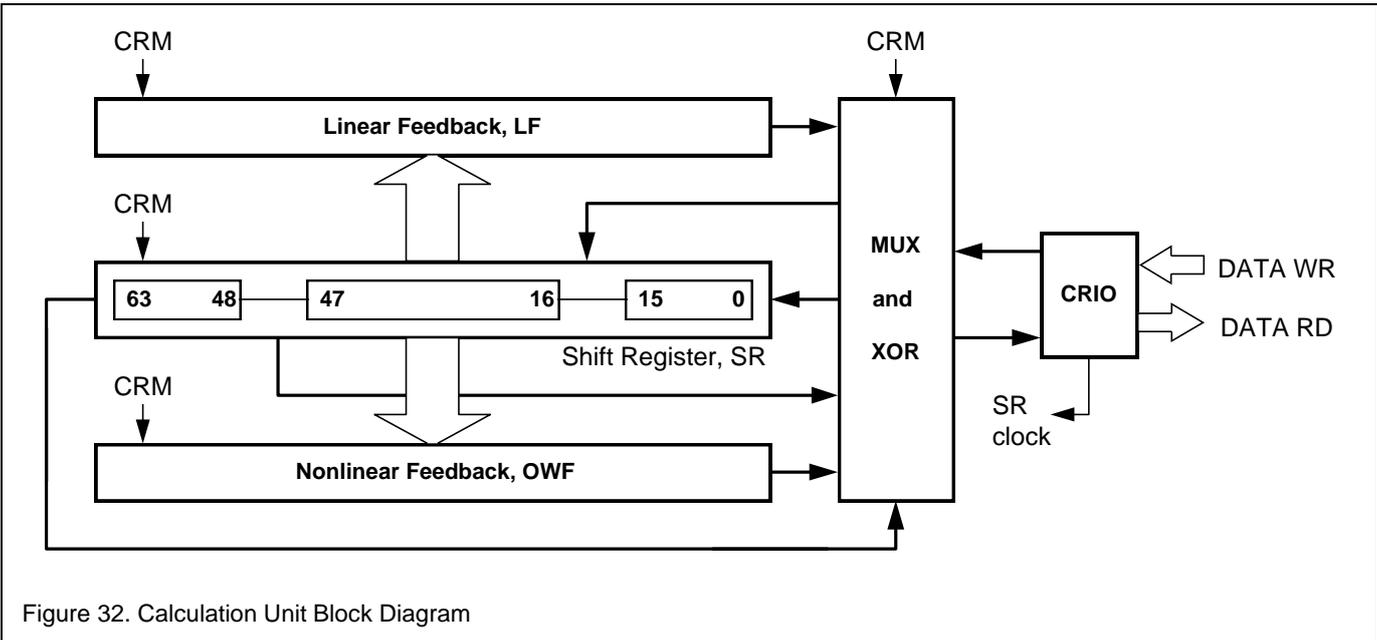

Figure 32. Calculation Unit Block Diagram
The Calculation unit consists of a 64 bit shift register with linear feedback (LF) and nonlinear feedback (OWF, One Way Function) capabilities that feature different characteristics for HITAG2 and Enhanced mode, see Figure 32.